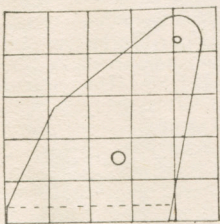

Fig. 7—Side of winding mechanism
To enable the worker to get an outline of the sides (K) we have included a squared diagram ($\frac{1}{2}$ in. squares). All he has to do, therefore, is to draw a series of ten squares and follow the lines through them, fixing also the positions of the holes shown in Fig. 7.